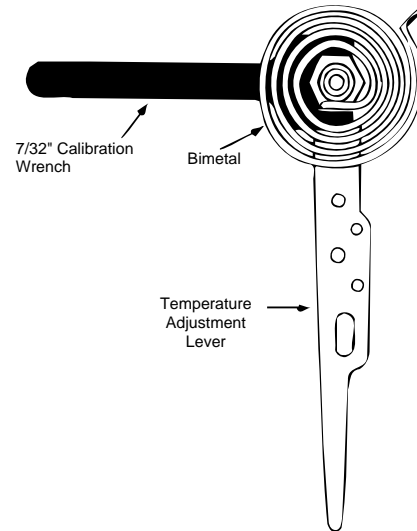

Figure 5. Calibrating Thermostat
2. Remove thermostat cover. Slip standard $\frac{7}{32}$ " wrench onto hex nut beneath bimetal, and holding temperature adjustment lever stationary, turn hex nut clockwise until mercury shifts to right end of bulb (see Fig. 5).
6. Slip standard $\frac{7}{32}$ " wrench onto hex nut and holding temperature adjustment lever stationary, turn hex nut counter-clockwise until mercury just barely shifts to left end of tube (see Fig.5).